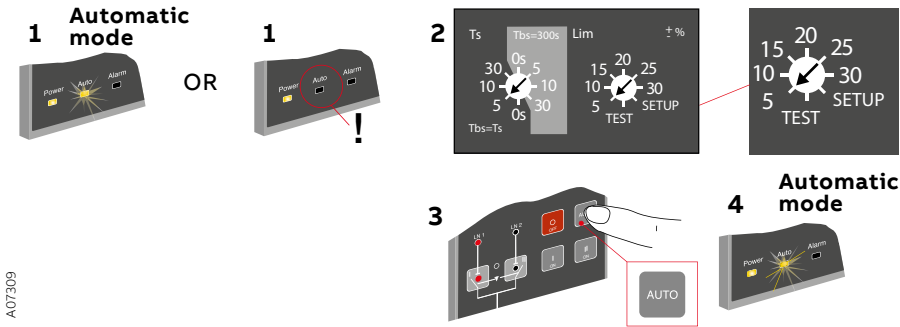

Figure 7.15 Selecting the automatic control units OMD100, OMD200 and OMD300 to Automatic Mode
5. Set device to AUTO mode according to the Figure 7.15